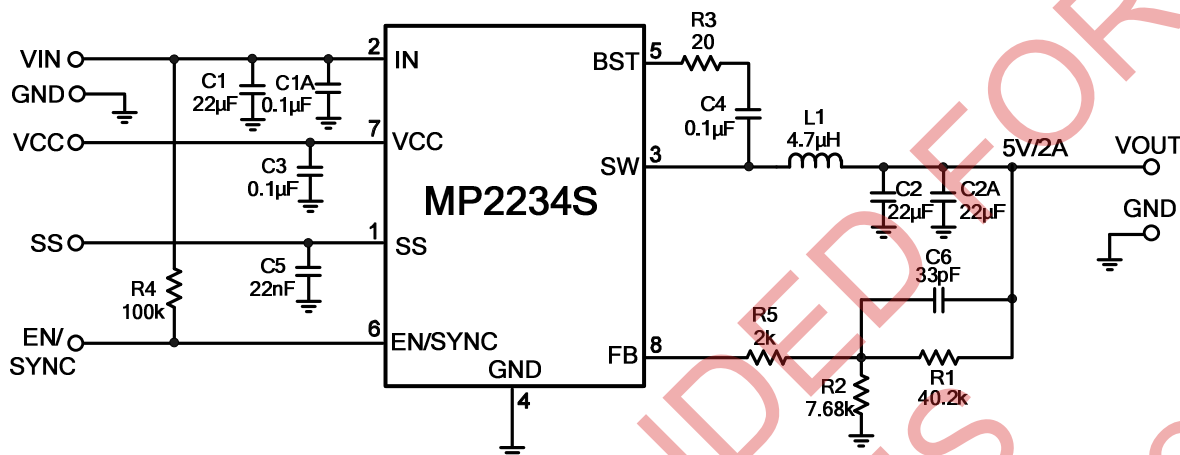

Figure 10. 12V_{IN}, 5V/2A Output
- 9) The recommended layout is based on the Figure 10 Typical Application circuit on page 17.